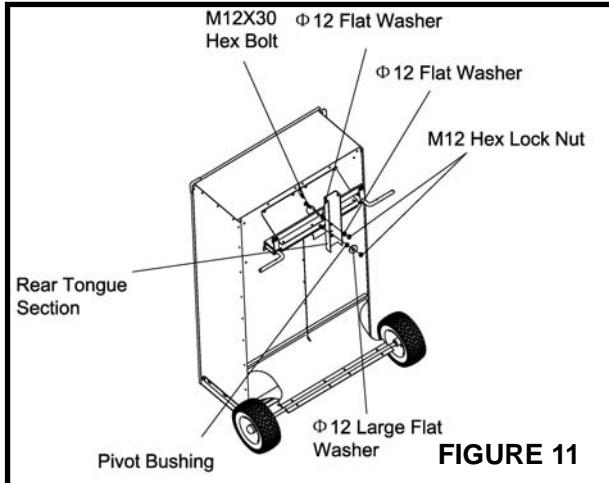

FIGURE 11
25. Remove the M12 lock nut from the center pivot bolt. Assemble rear tongue section, the pivot bushing, the large Ø12 flat washer and M12 hex lock nut onto the pivot bolts as shown in **Figure 11**.(The pivot bushing fits into the hole in the tongue.) Tighten.
26. Fasten the tongue to the tie rod as shown in Figure 11,using a M12X30 hex bolt, two Ø12 flat washer and a M12 hex lock nut . Tighten, leaving loose enough that the tongue can pivot.